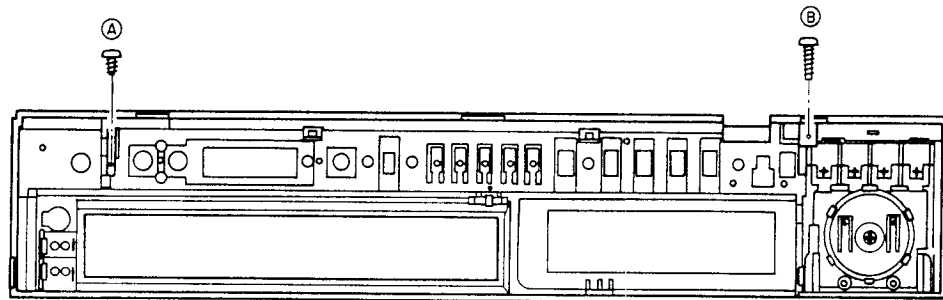

Fig. 4-2
- 3) Take out a screw (A) and a screw (B) as shown in Fig. 4-2.